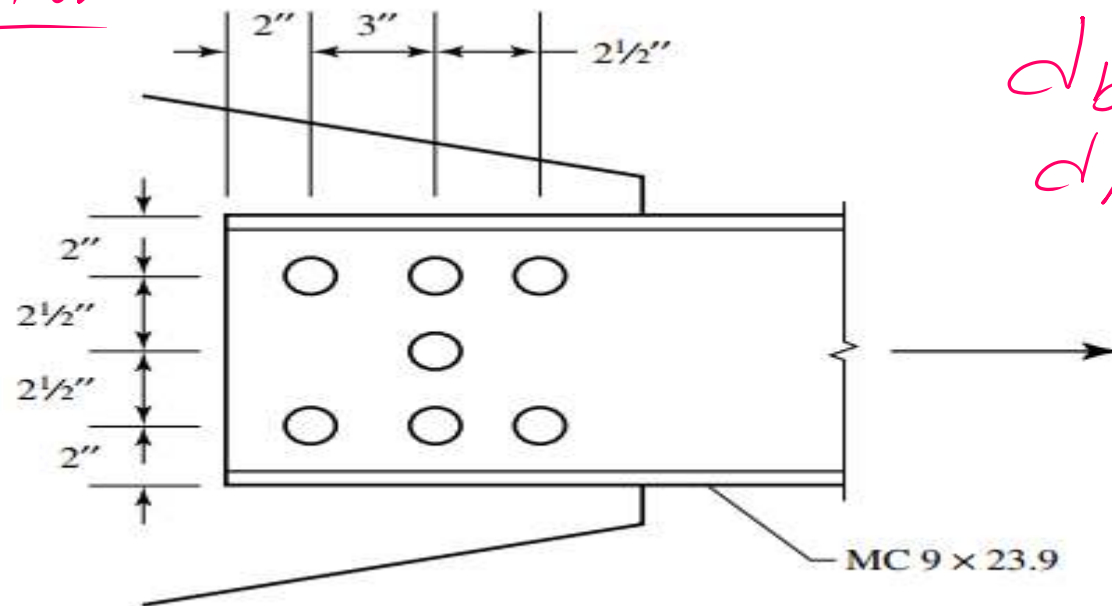

FIGURE P3.4-3
3.4-3 An MC 9 × 23.9 is connected with $\frac{3}{4}$ -inch-diameter bolts as shown in Figure P3.4-3. A572 Grade 50 steel is used.